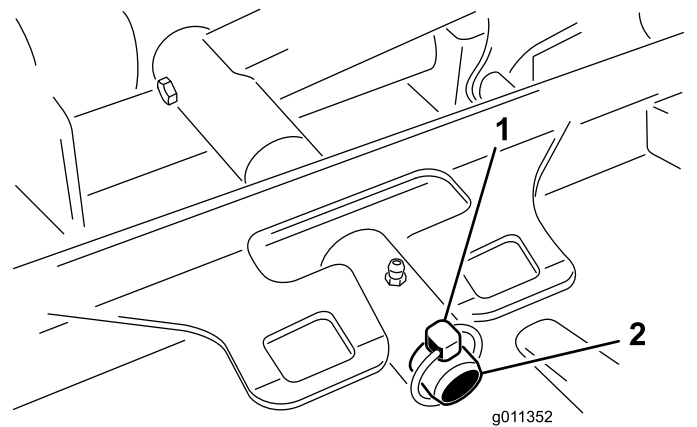

Figure 125
3. Remove the lynch pin (for Groundsmaster 4500 machines) or retaining nut (for Groundsmaster 4700 machines) securing the cutting unit-carrier frame to the lift-arm pivot pin (Figure 125).
2. Slide the cutting unit-carrier frame onto the lift-arm-pivot pin (Figure 125). Secure the cutting unit to the pin with the lynch pin (for Groundsmaster 4500 machines) or retaining nut (for Groundsmaster 4700 machines).